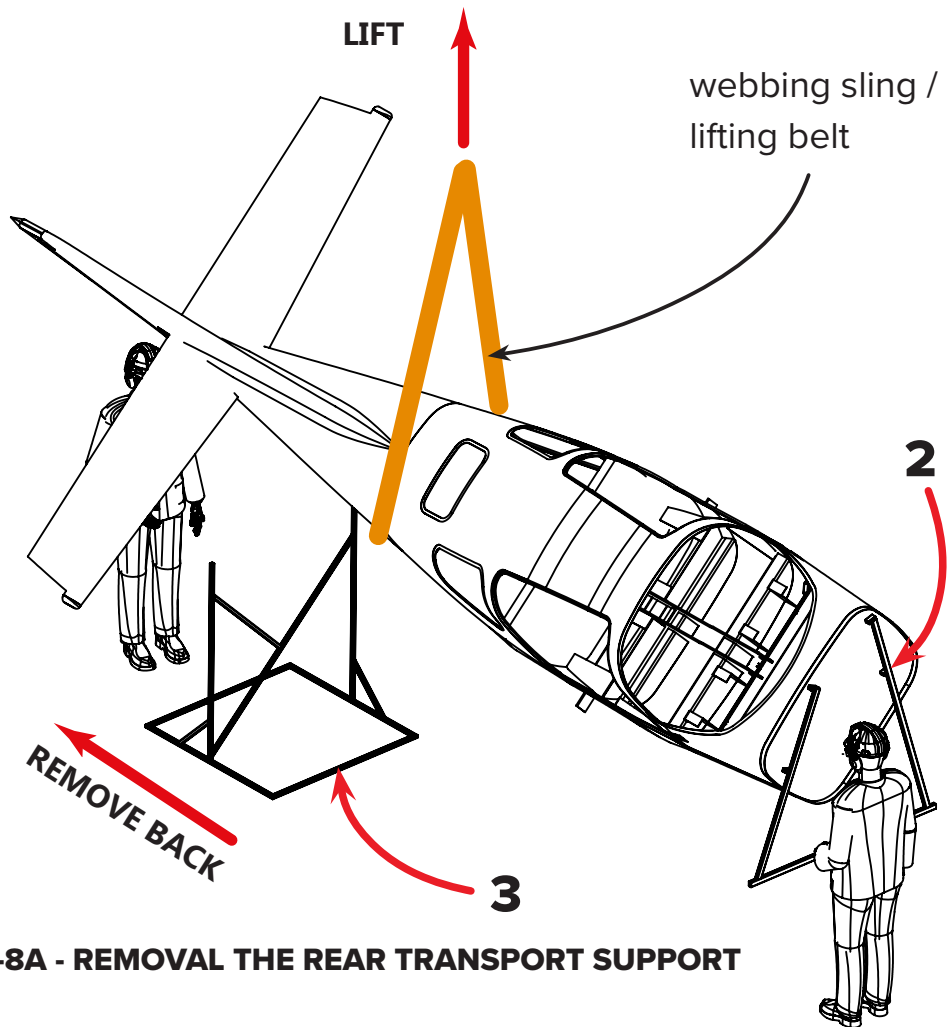
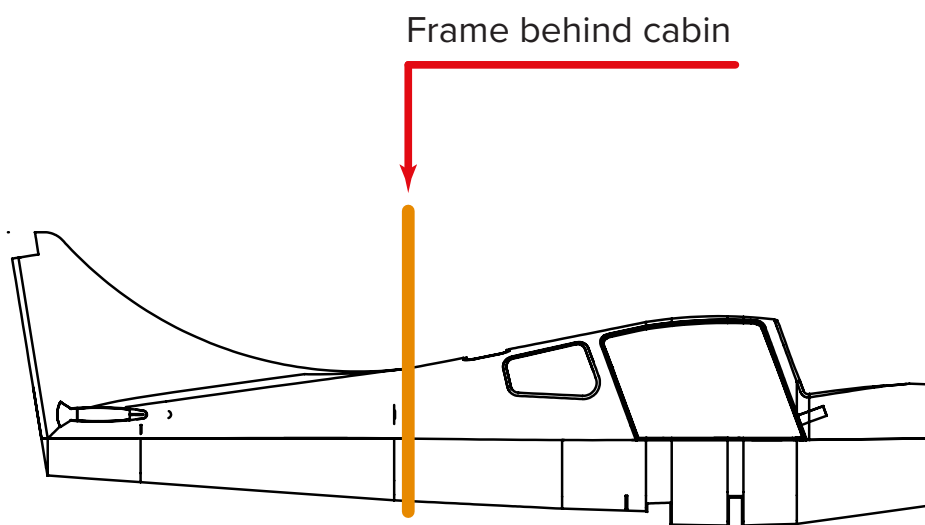

FIGURE 2-8A - REMOVAL THE REAR TRANSPORT SUPPORT
FIGURE 2-8B - POSITION FOR WEBBING SLING /LIFTING BELT ON FUSELAGE
24. REMOVE the Fuselage from the interior of the transport (Container or Truck) by lifting ONLY by the FUSELAGE TRANSPORT SUPPORTS (2) and (3) by the webbing sling / lifting belt;
25. KEEP the balance of the Fuselage with the help of 2 people during this movement, without performing any type of physical effort (figure 2-8A);
27. PLACE the FUSELAGE TRANSPORT SUPPORT (2) (3) on the floor with the Fuselage;
28. REMOVE the webbing sling / lifting belt of the FUSELAGE TRANSPORT SUPPORTS (2) (3);
29. PLACE the webbing sling / lifting belt on the Fuselage, as shown in Figure 2-8B;